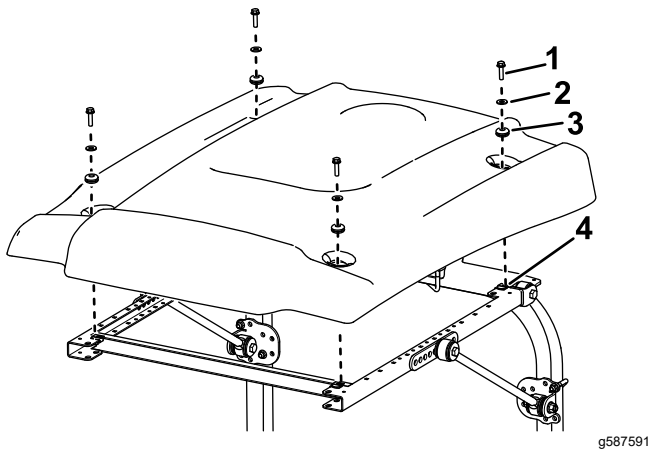

Figure 45
9. While aligning the mounting holes, position the sunshade onto the frame as shown in Figure 45.
10. Loosely mount each corner of the sunshade to the frame with a flange-head bolt (5/16 x 1 inch), a small washer, and a grommet (Figure 45).